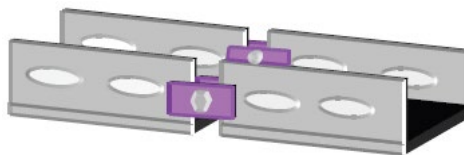

Figure 1.7 - Bonding links connection
- Connect the individual parts of metal cable trays to each other. Use special bonding links or jumpers for this purpose. Ensure that bonding links are made from the same material as the cable trays. Cable tray manufacturers will be able to supply appropriate bonding links (Figure 1.7);